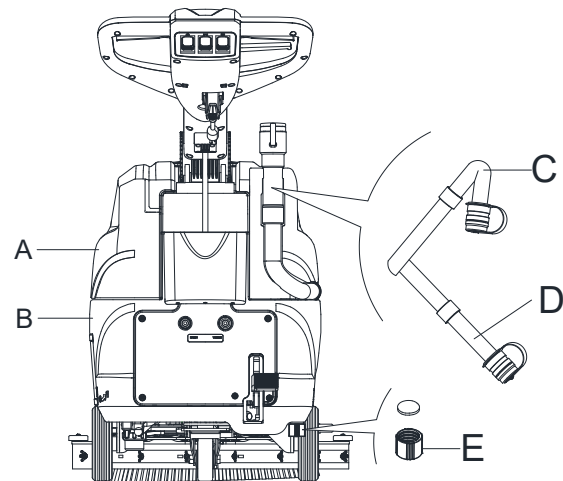

Figure 10
When draining the wastewater, the vacuum tube for waste must be folded (C, Figure 10) and lowered to a lower position (D, Figure 10), and then open the lid of the vacuum tube for waste to drain the water. Do not make the outlet of the vacuum tube for waste face upward to drain the water vertically. This is to avoid wastewater spilling onto the operator.
8. Empty the solution tank with the outlet cover (E, Figure 10). After working, rinse the tank with clean water.
2. Empty the tanks (A and B, Figure 10) as shown in the previous paragraph.
4. Clean the recovery tank lid (A), recovery tank (C), clean solution tank (D) and the float ball filter (B). Empty the recovery tank with the drain hose (D, Figure 10).
5. Install the float ball filter (B) and the recovery tank lid (A).